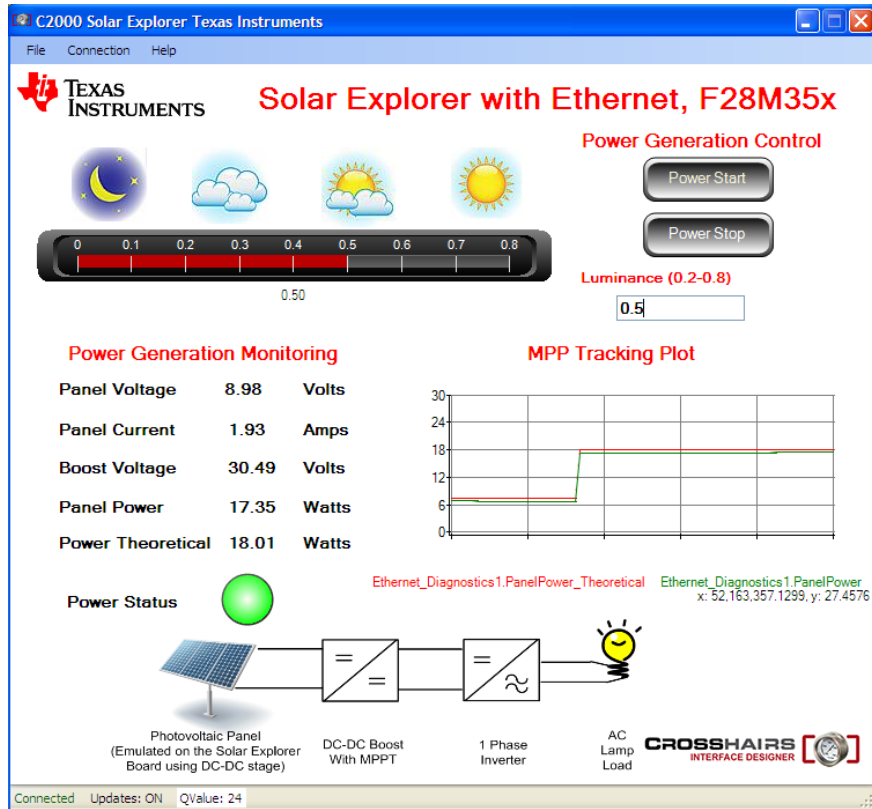

Fig 8: F28M35x Ethernet Gui
- 2) The Gui as shown in Fig 8 will appear, it is divided into Control and Monitoring sections, similar to the section on the F28035x Gui (details of each are not repeated here for succinctness of the guide). The communication to the host is implemented over Ethernet on the M3 core on the F28M35H52C1 device using CrossHairs tool.